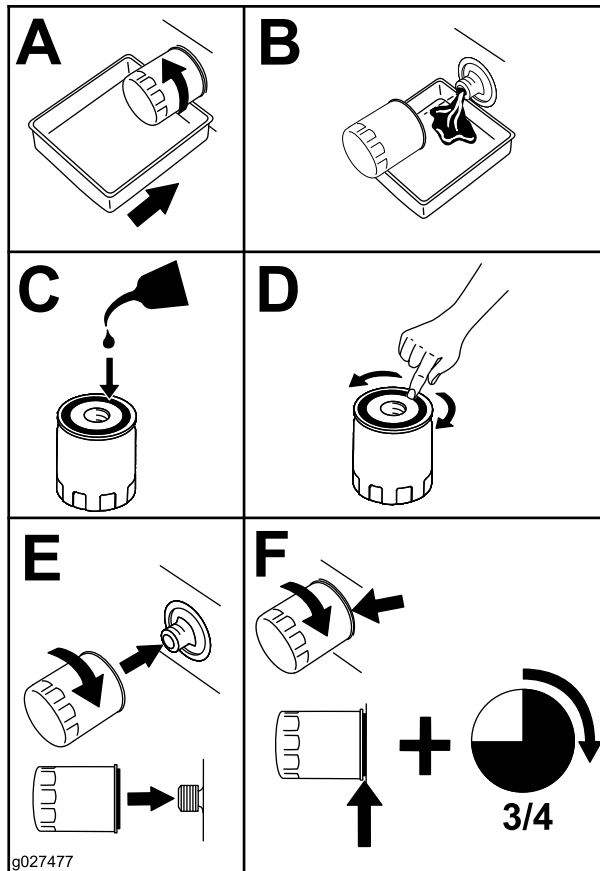

Figure 42
4. Change the engine-oil filter (Figure 42).